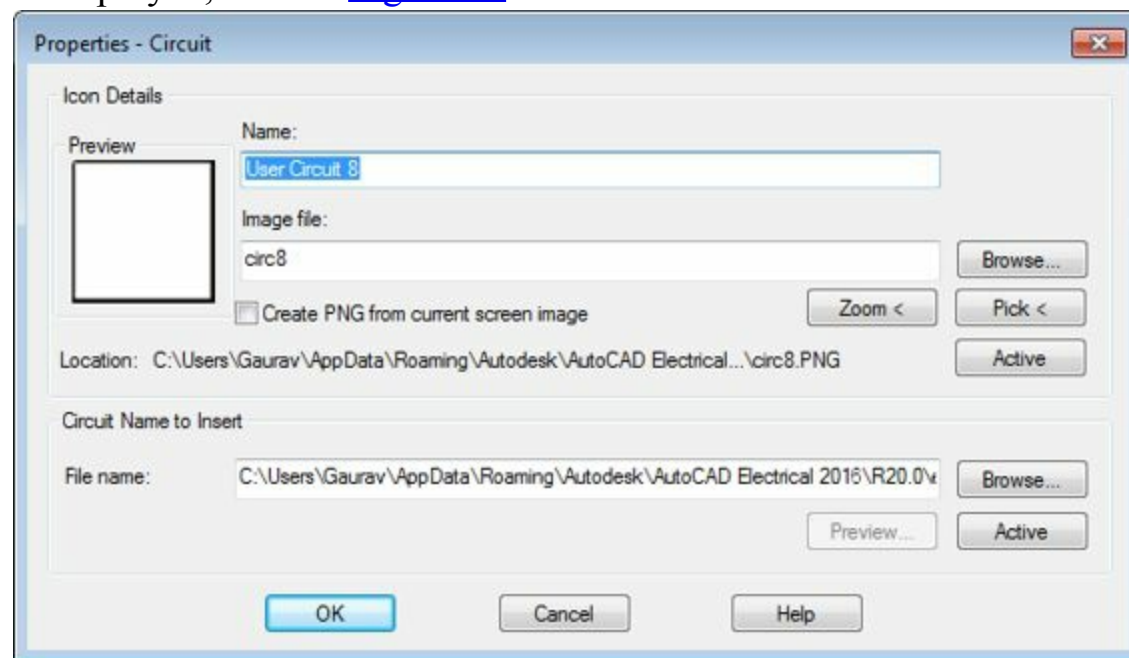

Figure-25. Properties Circuit dialog box
- Click on the **Properties** button from the shortcut menu. The **Properties-Circuit** dialog box will be displayed; refer to Figure-25.